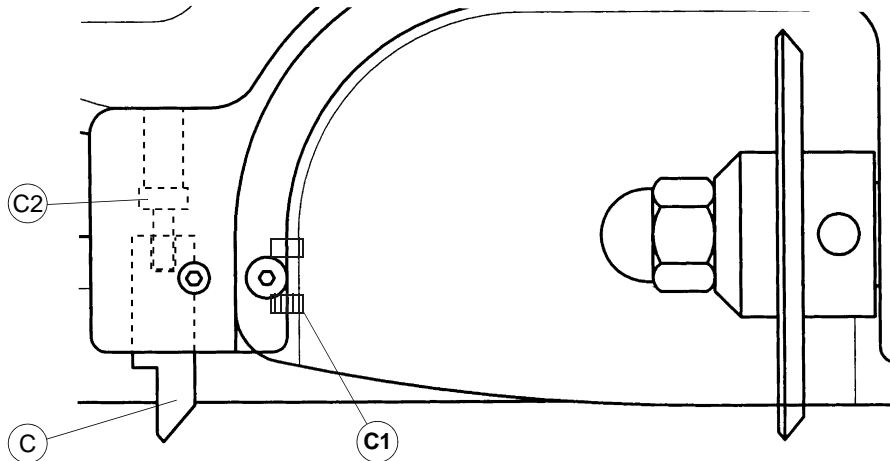

Fig. 14
To replace the tracer point (C) proceed as follows (fig.14):